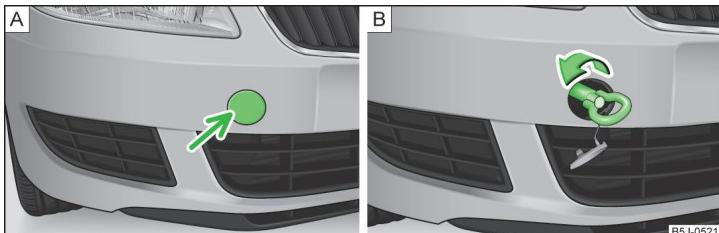

Fig. 148 Removing the cap / installing the towing eye
- Press on the left half of the cap in the area of the arrow » Fig. 148 - **A**.
- Screw the towing eye in clockwise by hand up to the stop » Fig. 148 - **B**. For tightening purposes, we recommend, for example, using the wheel wrench, towing eye from another vehicle or a similar object that can be pushed through the eye.